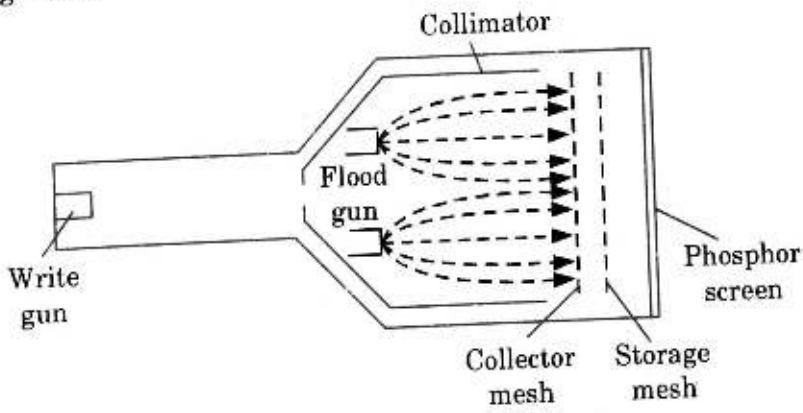

Fig. 4.4.2. Storage mesh CRT.
6. The electron paths are adjusted by the collimator electrode which continues a low voltage electrostatic lens system as shown in Fig. 4.4.2.